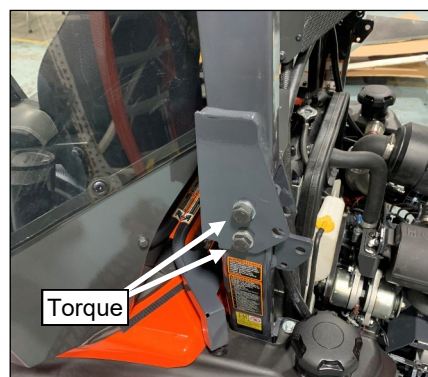

Fig. 5.15 (Tighten ROPS Bolts)
5.15 See fig. 5.15. Install the washer and nuts onto the M16 ROPS bolts and tighten at this time. Note: The tightening torque is different for the upper and lower bolt.